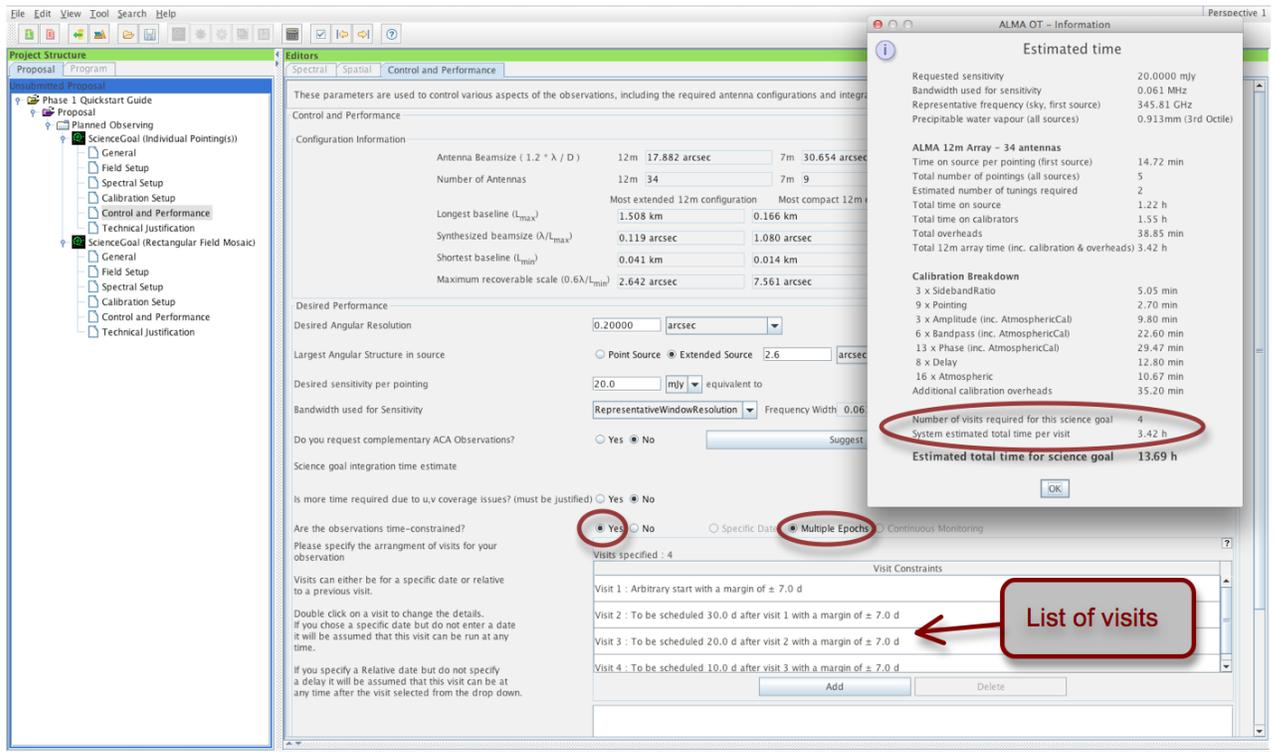

Figure 11: The time constraints interface and Time Estimate box for the example of *Multiple Epochs*.
- *Multiple Epochs:* here you can define multiple visits for your Science Goal. The timing constraints of the individual visits are specified in terms of arbitrary, fixed or relative time intervals (see Fig. 11). In this case, the observations will be carried out **once at each epoch**. The time estimate computed by the OT will be multiplied by the number of epochs to yield the total time required for the Science Goal.